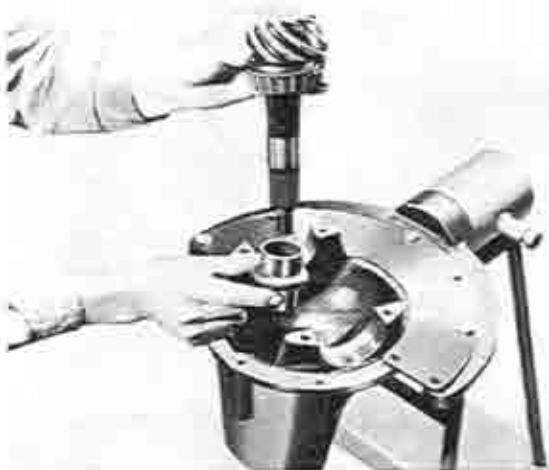

Fig. 9-20 Installing of collapsible spacer.
1. Position the pinion assembly in the carrier and install the collapsible spacer as shown in Fig. 9-20.